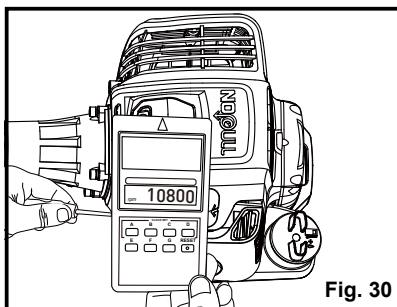

Fig. 30
- Adjust the H screw: while running the cutter at full throttle, first turn the H screw clockwise slightly with the carburetor adjustment tool, and observe the RPM displayed on the tachometer to verify the correct adjustment direction (clockwise or counter-clockwise) for reaching the max no load speed. Then turn the H screw slowly in the correct direction, and observe the RPM displayed on the tachometer until it reaches the max speed (Fig. 30).